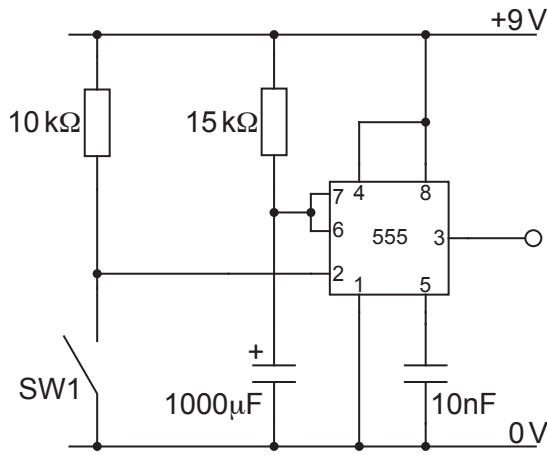

Fig. 11.3
(c) Fig. 11.3 shows a monostable circuit that uses a 555 timer IC.
- (ii) Switch SW1 in Fig. 11.3 is closed 5 seconds after the circuit is switched on.